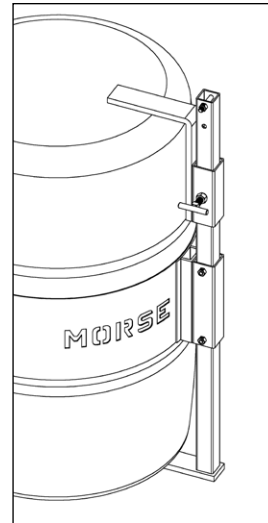

Figure 2.1
- The **Bracket Assembly** (Part # 4556-P) is **required** to handle a plastic drum without a top rim (see figure 2.1). It is also recommended to more securely handle a fiber drum. You can use the Bracket Assembly with a 55-gallon plastic, steel or fiber drum. The brace at top and bottom of the drum prevent it from slipping lengthways through the drum holder. It adjusts for a drum 31" to 37" tall.